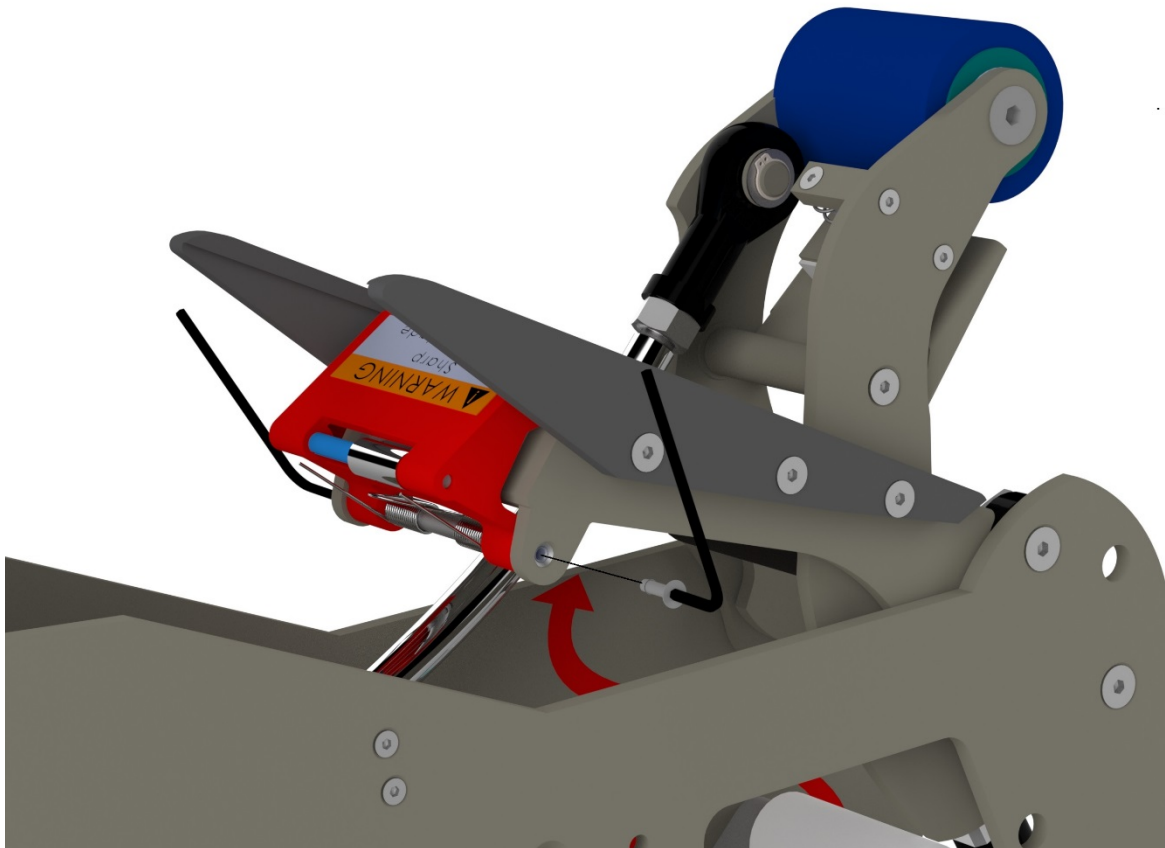

Figure 10-17
1. Apply some Purple Loctite (222) to the threads of the M3 screw and fasten to the end of the cross shaft. Tighten using two 2mm hexagonal keys as shown in **Figure 10-17**.